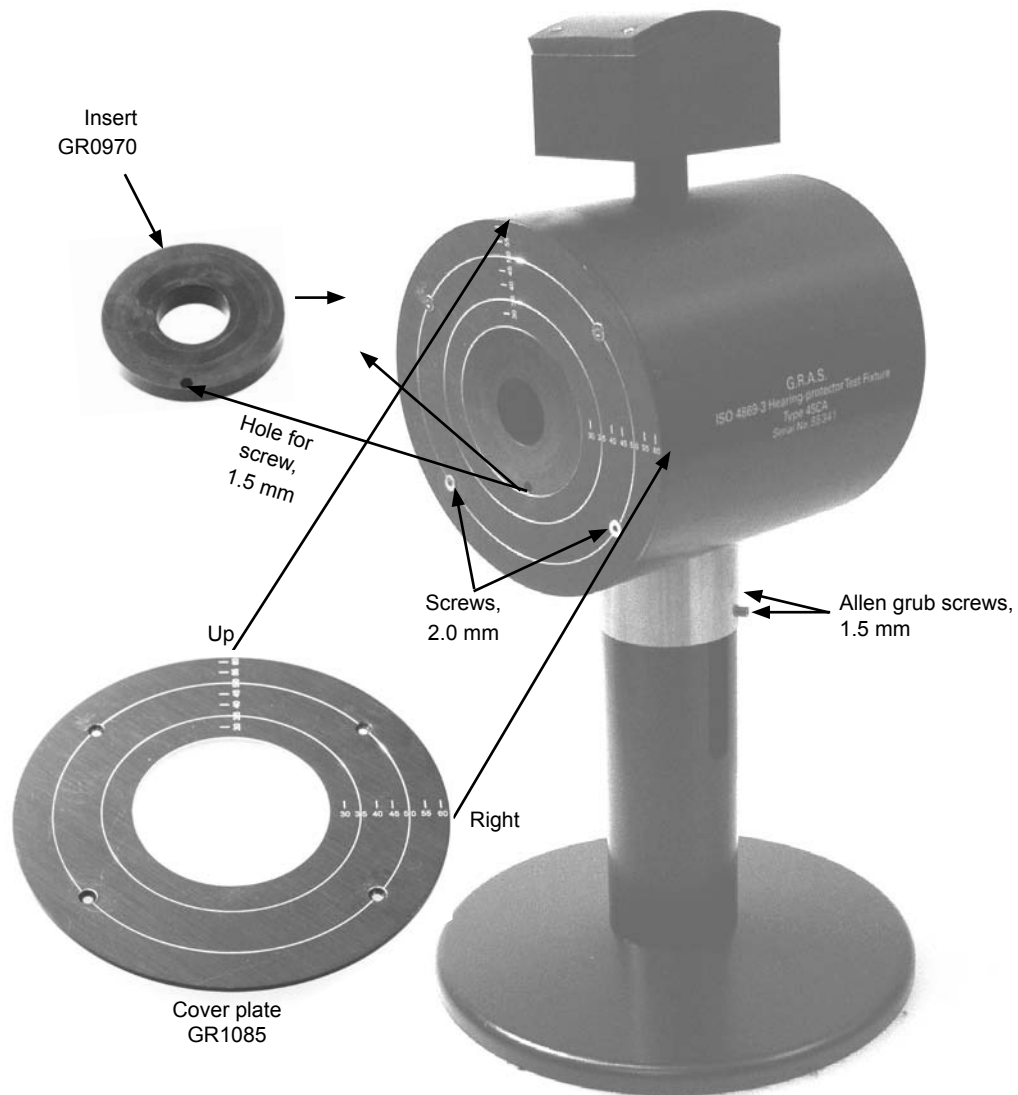

Fig. 4.3 Cover plate and insert to be mounted
1. See Fig. 4.3:
2. Using Allen key 1.5 mm, loosen the two 1.5 mm grub screws (Fig. 4.3), and separate the head from the pedestal.